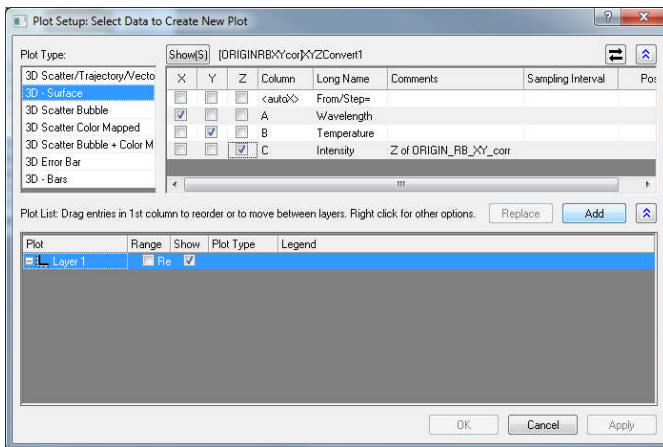
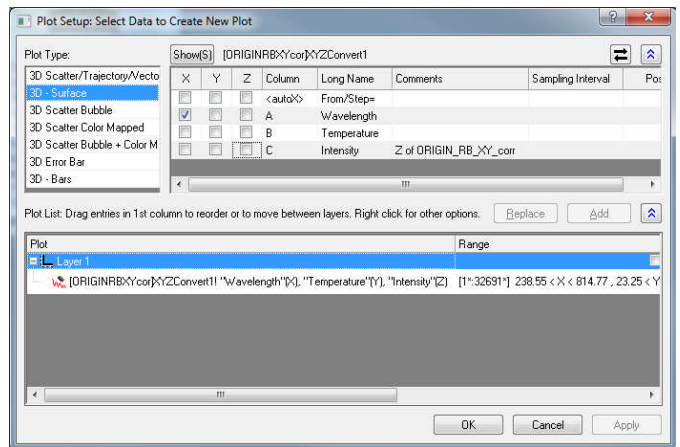

Figure 9: Tick boxes to link XYZ & ABC; press << Add >>...
Figure 10: ... and a new source appears..
h) Check the tick boxes to link the X, Y and Z columns to the A, B and C inputs that create the graph (Figure 9). Then click << Add >> and a new source the graph (Figure 10). Press << OK >>.
- l) Check the tick boxes to link the X, Y and Z columns to the A, B and C, click << Add >> and a new source the graph appears. *This section is identical to Figure 9 and 10.* Press << OK >>.